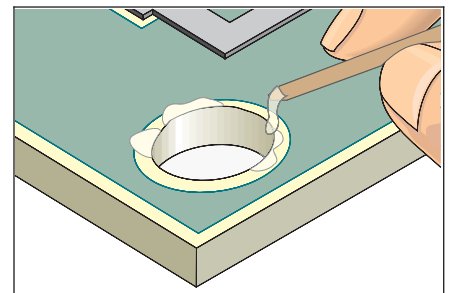

Figure 2 Apply epoxy with a small wood stick sharpened at one end.
6. Coat the area with epoxy up to and flush with the printed circuit board surface. A small wood stick may be used to apply and spread the epoxy. (See Figure 2.)